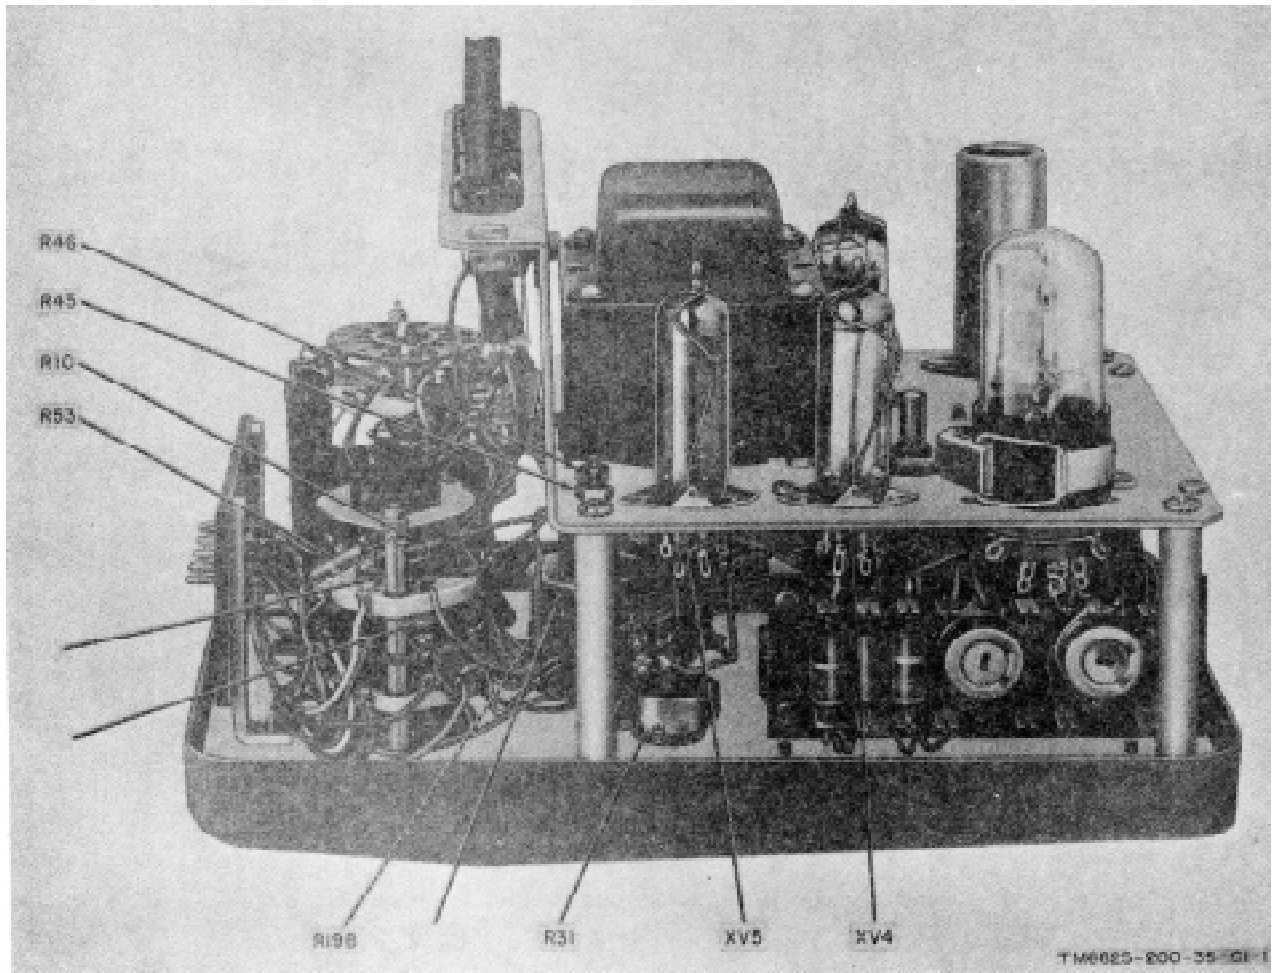

Figure 6-4. Multimeter ME-26A/U chassis, left side view.
d. Resistor R23 open.	d. Replace resistor R23 (fig. 6-4 or 6-9).